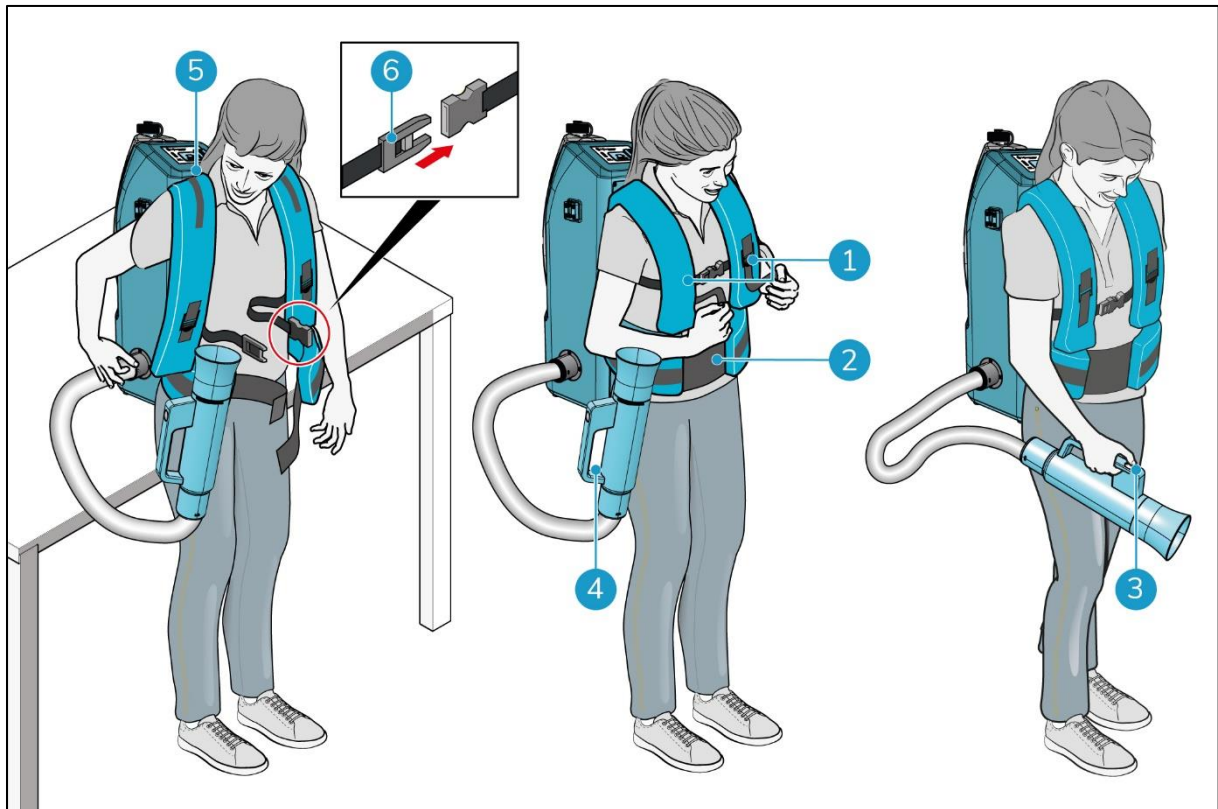

Figure 15
9. Remove the spray gun from the main body of the i-fogger®, and place it on the harness (Figure 15, pos 4).
10. Place the i-fogger on your back (Figure 15, pos 5).
11. Tighten the Velcro closures until they fit comfortably (Figure 15, pos 2).
12. Fasten the 2 buckles (Figure 15, pos 1) until they fit comfortably.
13. Fasten the buckle at the front (Figure 15, pos 6).
15. Press the self reset button on the spray gun (Figure 15, pos 3).
1. Press the self reset button on the spray gun (Figure 15, pos 3) to stop spraying.
2. Undo the buckle at the front (Figure 15, pos 6).
3. Undo the other 2 buckles (Figure 15, pos 1).
4. Undo the Velcro closures (Figure 15, pos 2).